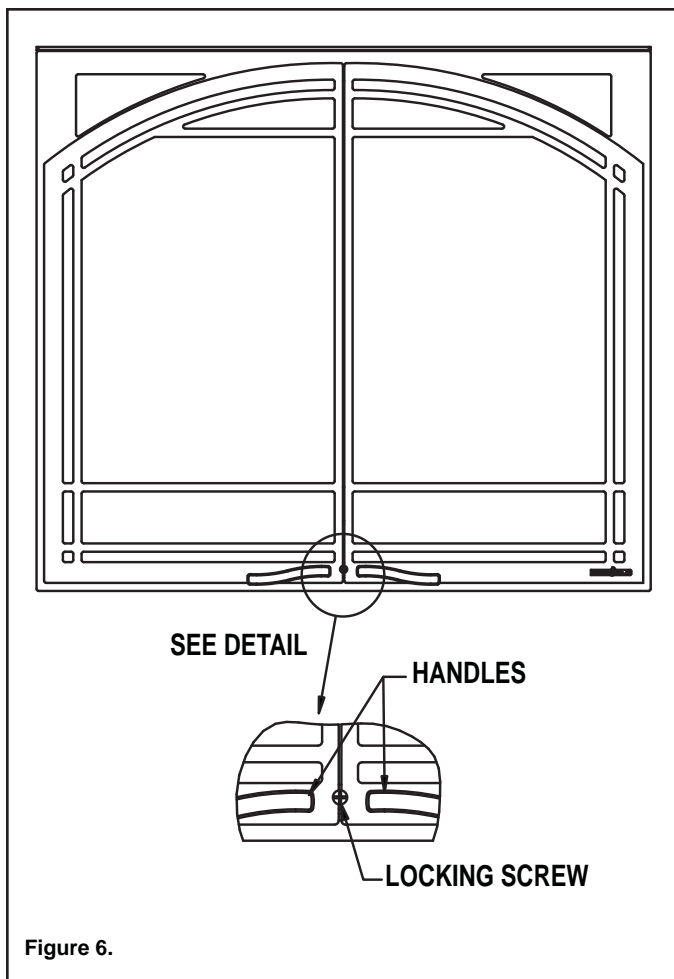

Figure 6.
4. Remove the door locking screw that is fastened in between the two doors at the center bottom of the door frame. See Figure 6.